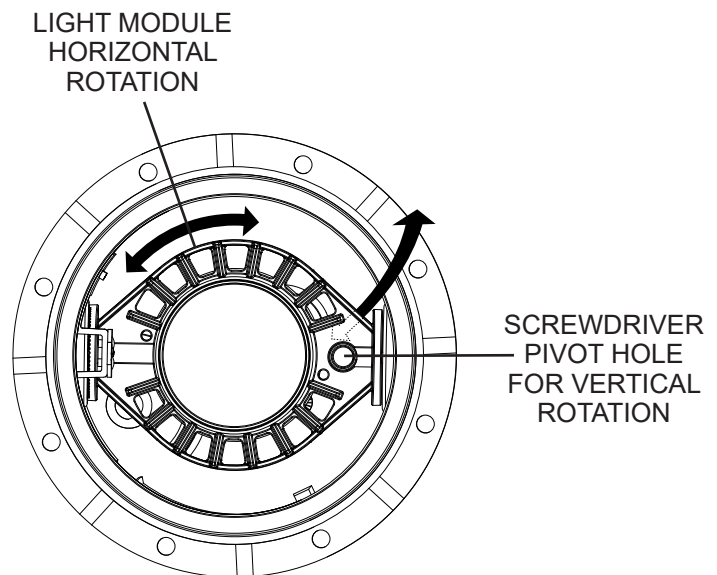

Figure 2
- First adjust vertical beam direction using a #2 Phillips screwdriver to pivot the light module. Place screwdriver in hole provided. See Figure 2.
- Horizontal adjustment is accomplished by placing your hand over light module and rotating light module left or right. See Figure 2.